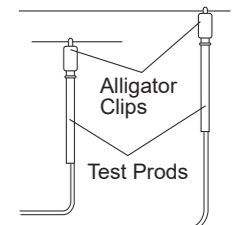

Fig.4
- Turn on power to the circuit to be measured and read the voltage on the Instrument. Refer to the Fig.4.